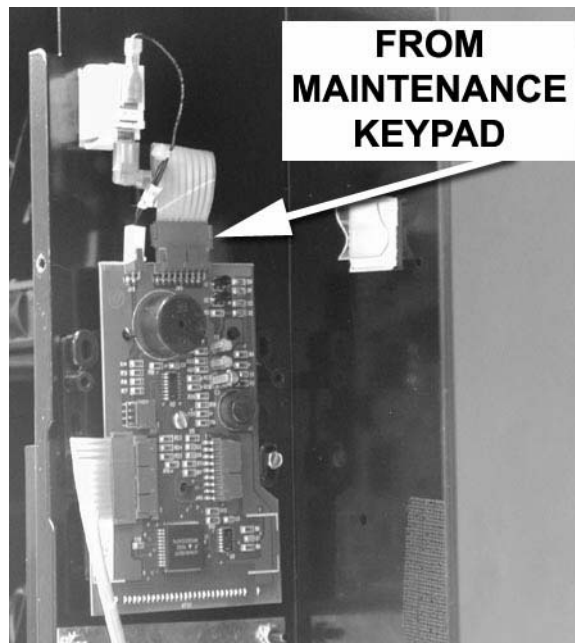

Figure 31
2. Disconnect the ribbon cable from the maintenance keypad to the display PCB (figure 31).
3. Connect the ribbon cable to the display PCB (figure 31).